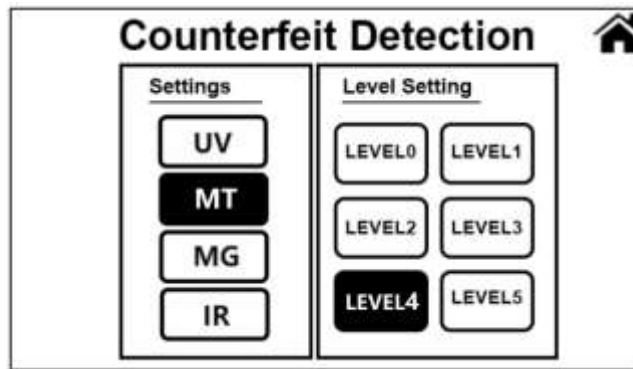

Figure 51
b. For example: If users want to raise the “MT” counterfeit level, we can choose “Level 4”. There are 6 levels for each detection capability, from 0 to 5. 0 represents the capability to detect counterfeit off, 1 represents the weakest capability to detect counterfeit, and 5 represents the strongest capability to detect counterfeit. A low detection level enhances the smooth counting of genuine banknotes but at the same time reduces the capability to catch counterfeit notes, while a high detection level enhances the capability to catch counterfeit notes but at the same time may result in the error reports. Therefore, when the rate of errors is high, you can lower the MT detection level, and when counterfeit notes cannot be caught, you can increase the MT detection level. Users can change the level according to the actual demand, as shown in Figure 51. After selection, the machine can automatically save the setting, touch the “” key on the upper right corner of the screen or press the “” key to return to the previous interface.